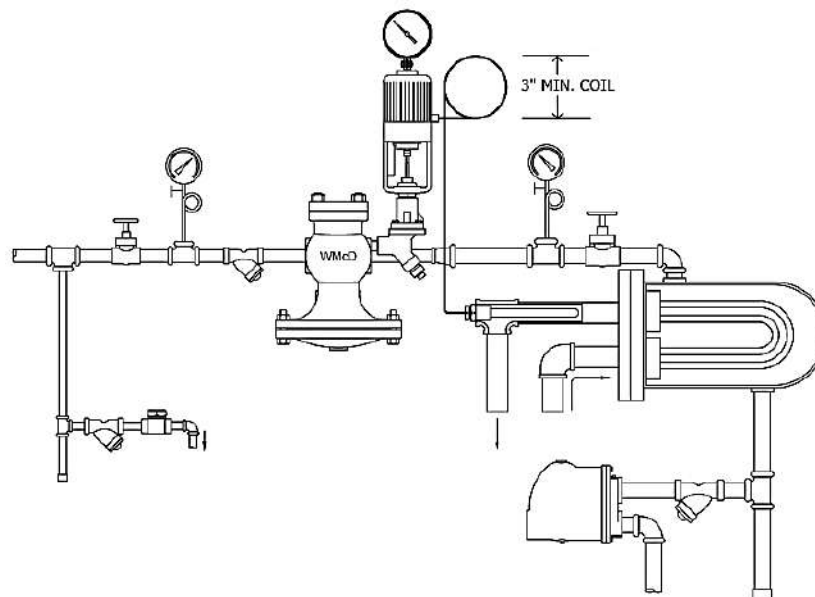

Figure 2: HD Valve Installation
1. Make sure steam supply is safely shut off. Fig. 2 piping hookup is a typical installation to be used as a guide for planning piping.
- a) Avoid sharp bends, twists or any kinks in the flexible capillary. It may be coiled on a 3" diameter or larger, but never less than 3". See Figure 2 below.